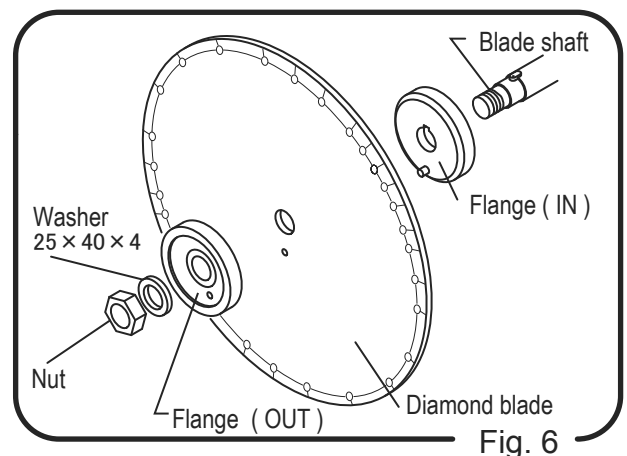

Fig. 6
Install Flange (IN), Diamond Blade and Flange (OUT) in such order to the blade shaft and tighten sufficiently with Nut (left hand thread). (Fig. 6)